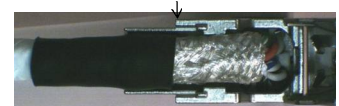

Figure 15
- 13) Check for stray braids, remove as needed. Close the rear body halves together (Fig. 15), install the collett & collett nut onto the rear body, with collett guide located in the slot between rear body shell halves (Fig. 15). Tighten the collett nut until snug (Fig. 16).